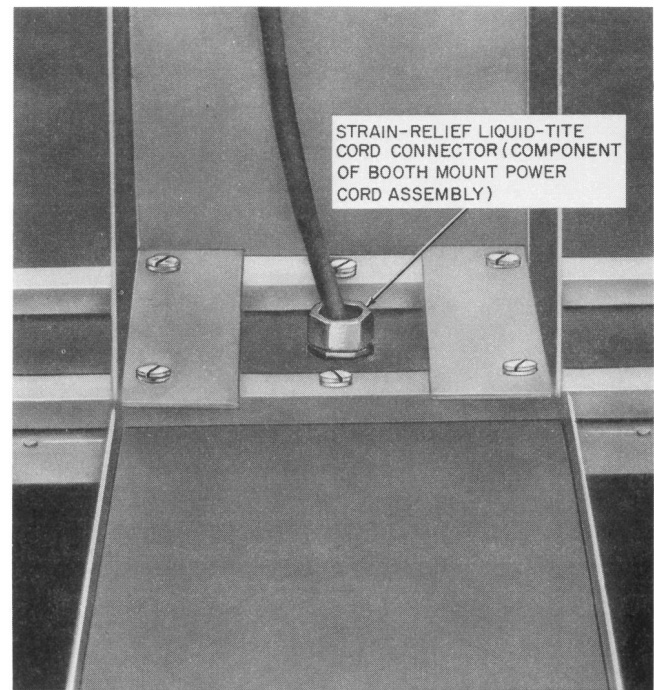

Fig. 34—Booth Bracket and Power Cord Installed on Top of Telephone Booth
- (d) Remove the backing from the six mounting gaskets (item 1) and place gaskets over the mounting bar holes.
- (e) Secure bars (with gaskets next to roof) to the telephone booth roof using (items 5, 6, 7, and 8).
- (f) Remove cover (item 4) from booth bracket (item 3). Locate bracket over the four 1/4-inch tapped holes in mounting bars (Fig. 34). Secure bracket to mounting bars using items 6 and 9.